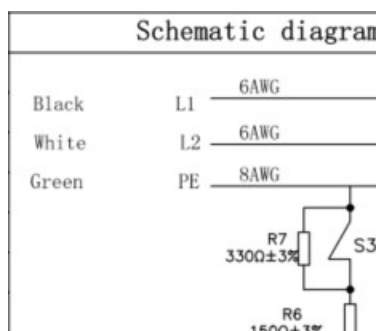

Figure 1 – Charging cable wiring schematic
**Installation of Replacement Charging Cable** – Connect the L1, L2, G/PE and CP conductors to the appropriate wiring terminals within the charging station referencing the schematic diagram in Figure 1 and the AC power service diagrams in Table 1. Finally, follow the manufacturer's instructions to replace the cover for the cable wiring terminals.